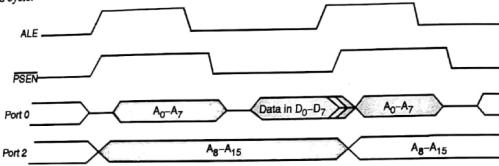

Fig. 8.2.4 : Timing waveforms for external program memory read cycle
- Port 2 is used to provide higher order address bus. Fig. 8.2.4 shows the timing diagram for external program memory read cycle.